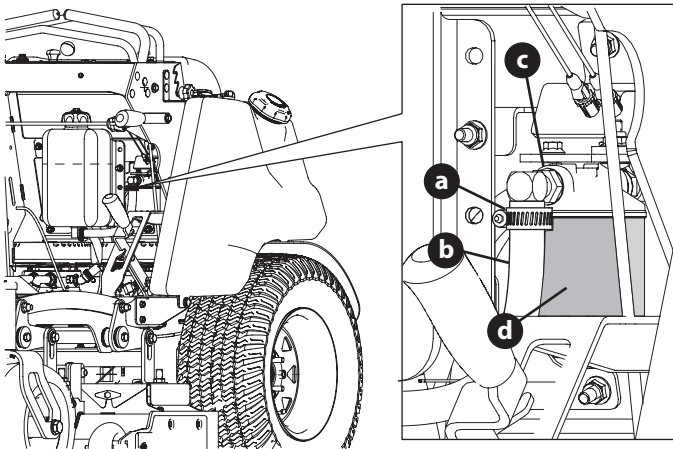

Figure 27
2. Loosen the hose clamp (a) securing the transmission oil hose (b) to the transmission oil filter assembly (c) (Figure 27 on page 22).
5. If necessary, perform the following to replace the oil filter (Figure 27 on page 22):
7. Tighten the hose clamp (a) securing the transmission oil hose (b) to the transmission oil filter assembly (c) (Figure 27 on page 22).